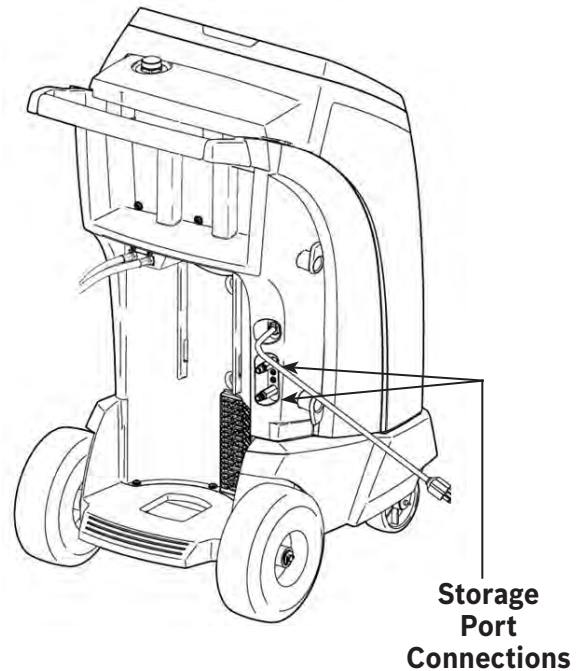

Figure 7
2. Connect the service hoses to the machine's storage port connections as shown in Figure 7.
2. If the system does NOT have an electric compressor with POE oil, select **X** to continue. If the system has an electric compressor with POE oil, select **✓** to flush all residual oil from the hoses. The user will be prompted to "Connect service hoses to storage ports and open coupler valves." See "Figure 7" on page 21. Continuing will begin the process of flushing the hoses. Once complete, select **▶▶** to continue through the Charge process.